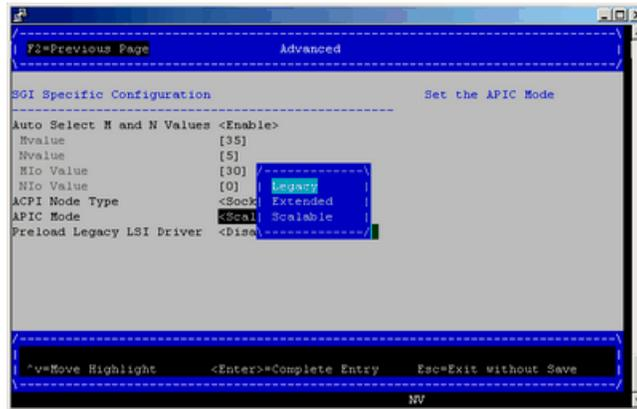

Figure 4-9 SGI Specific Configuration Screen
- From the **SGI Specific Configuration** screen, you can verify or change the system APIC mode, as shown in Figure 4-9 on page 58.